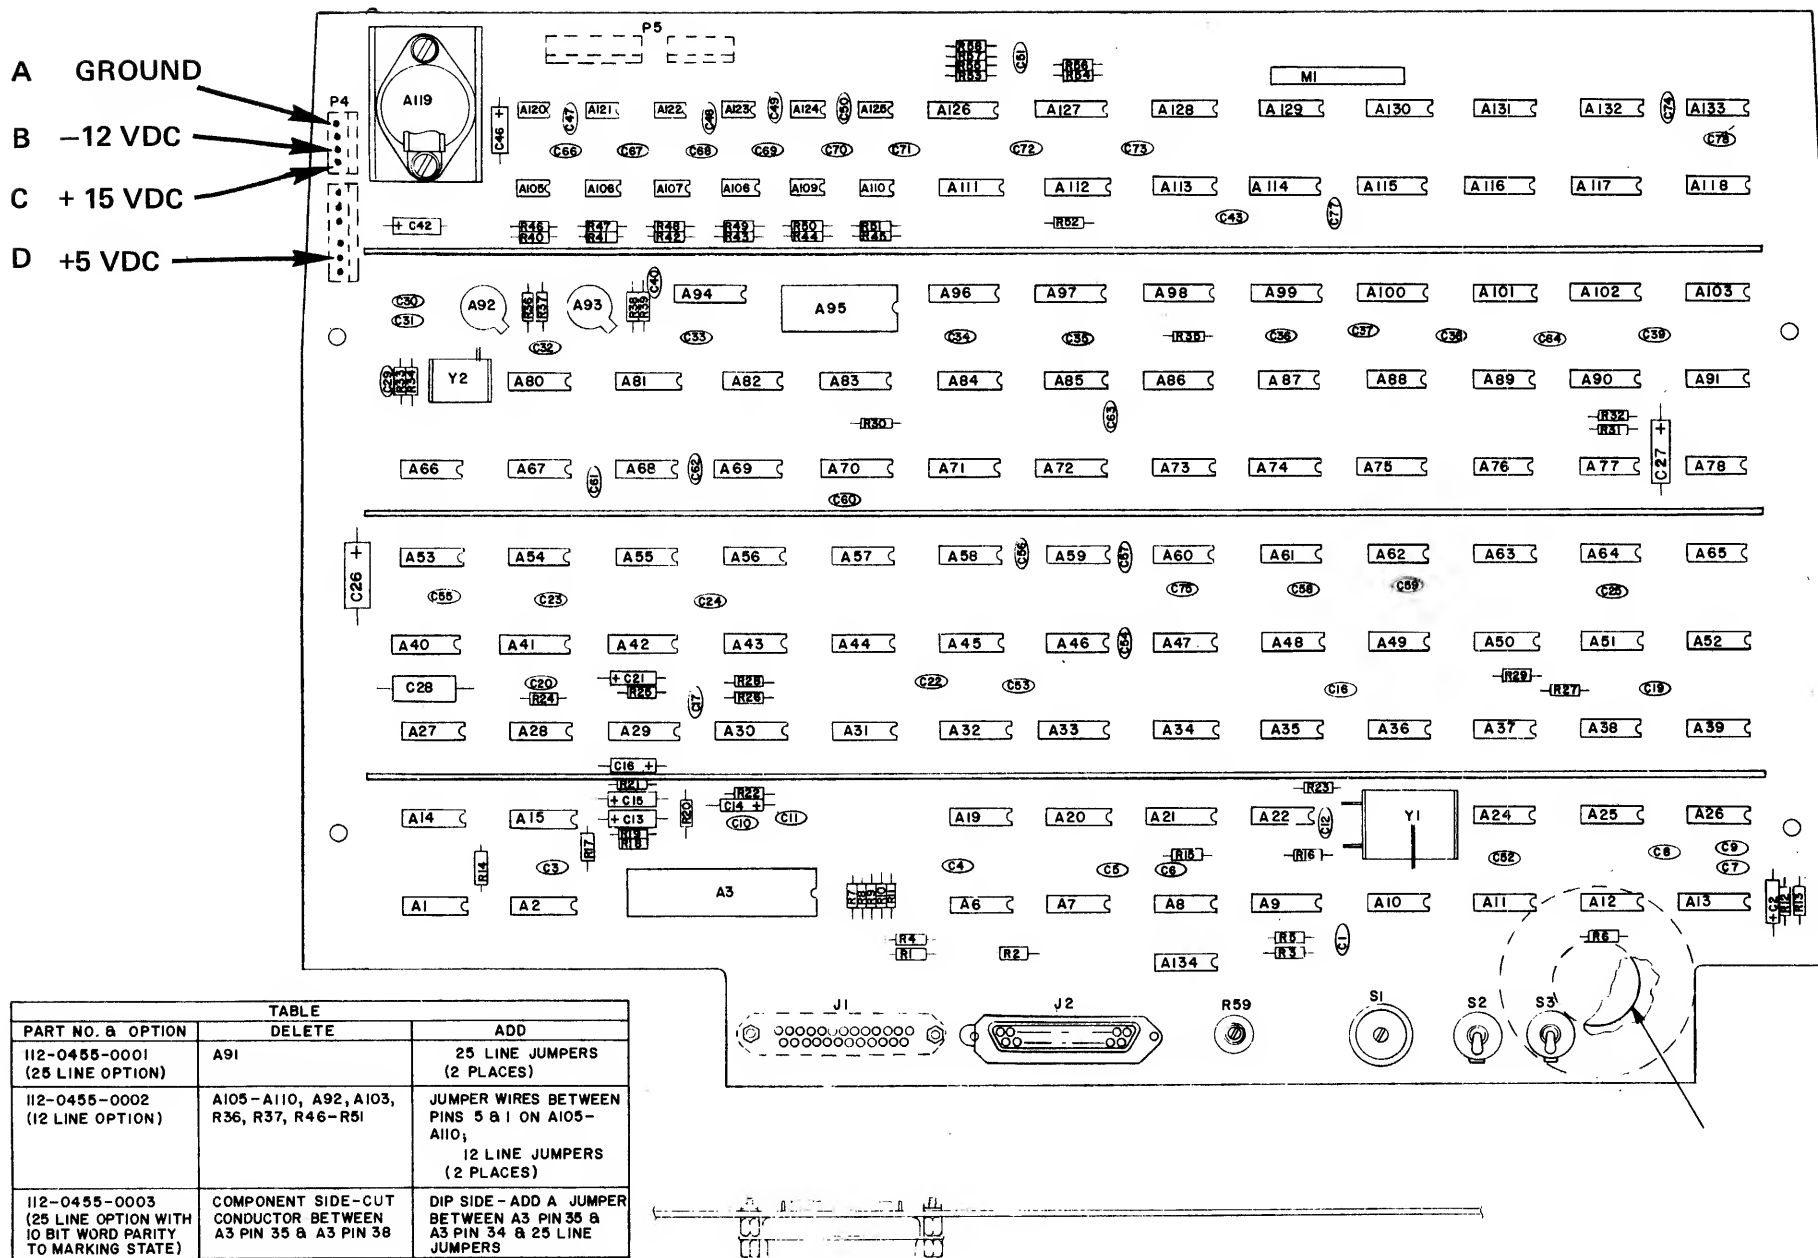
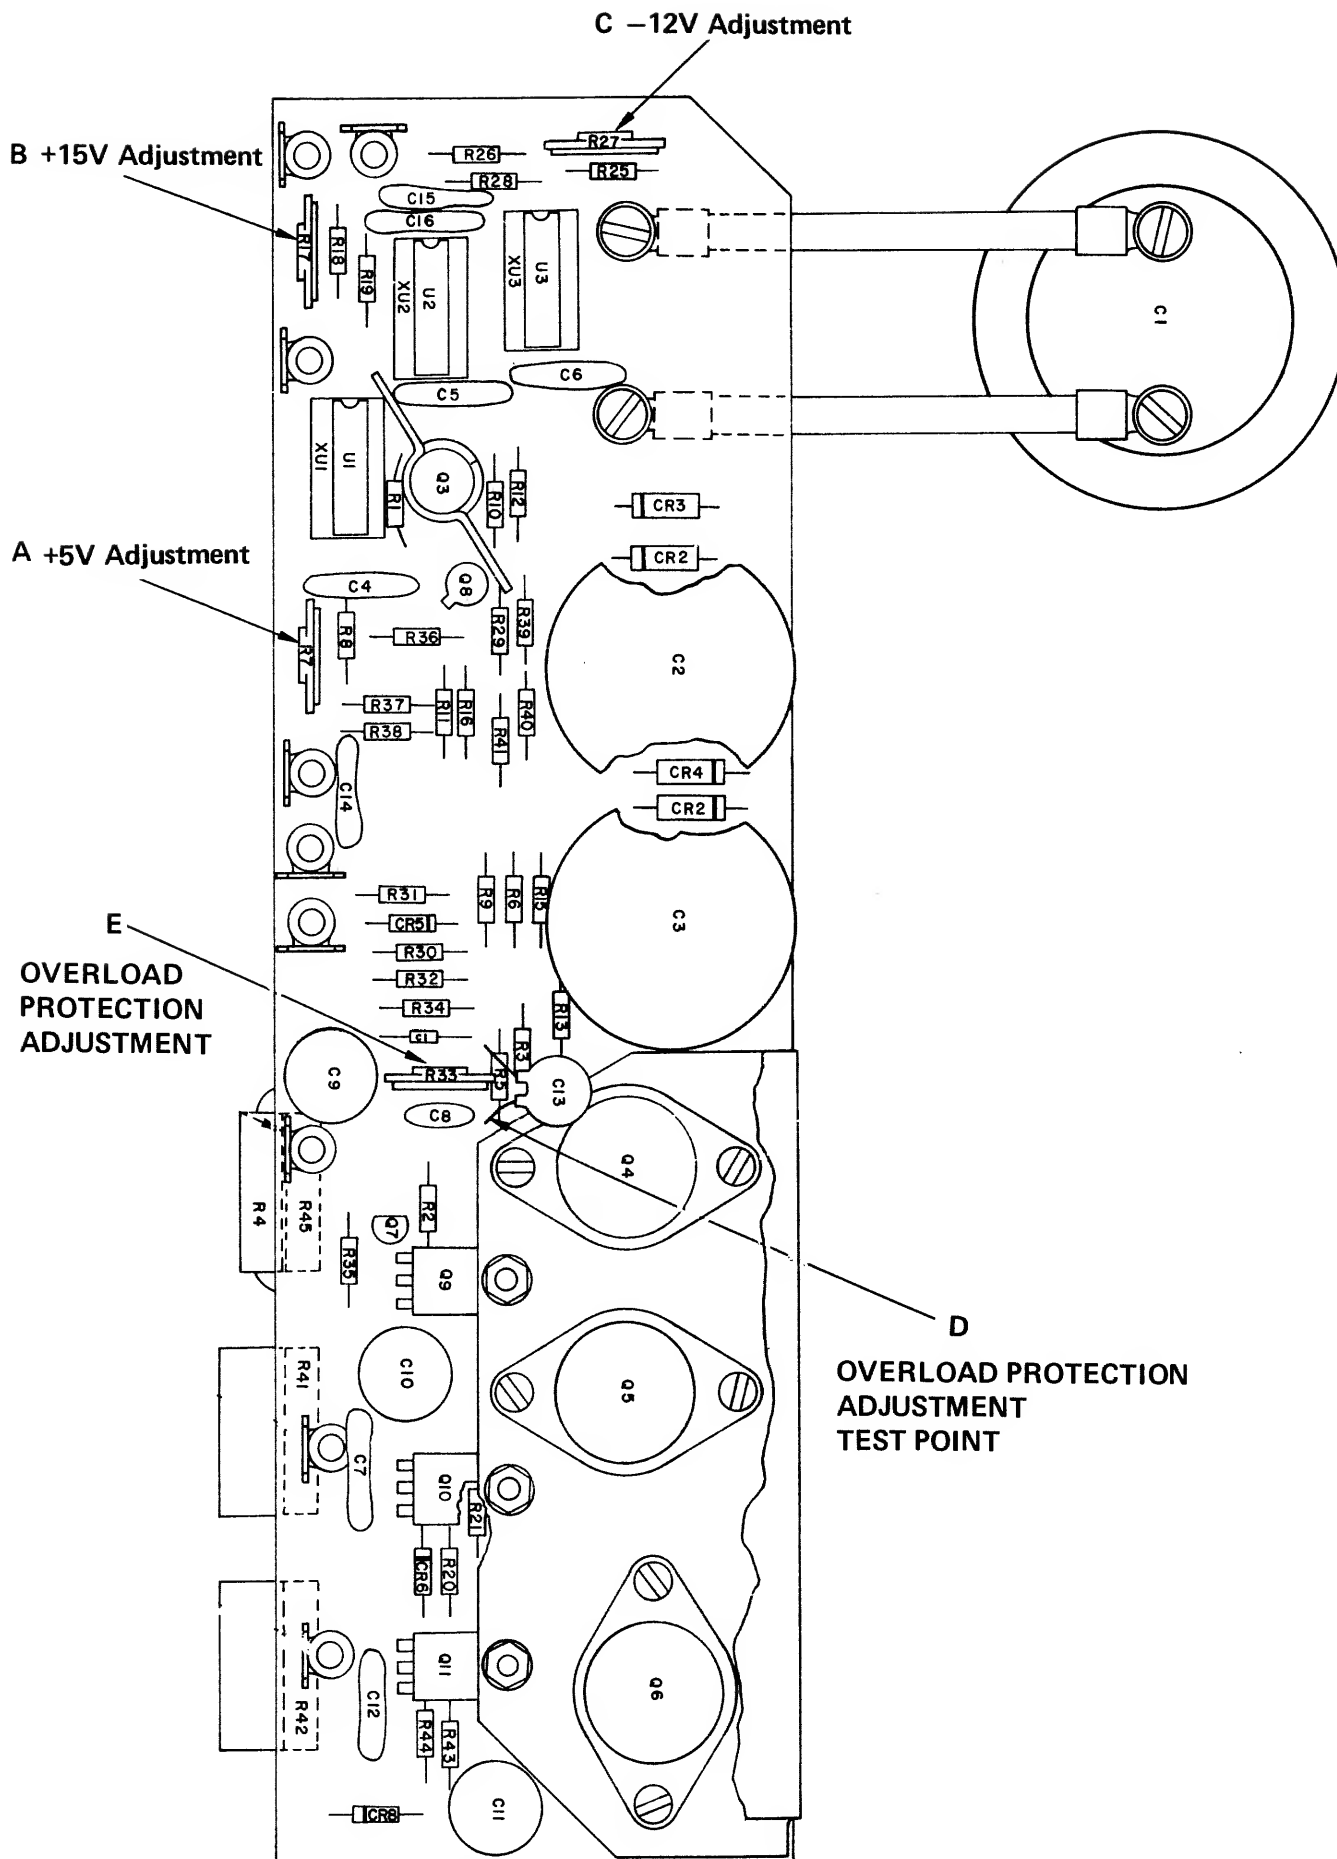
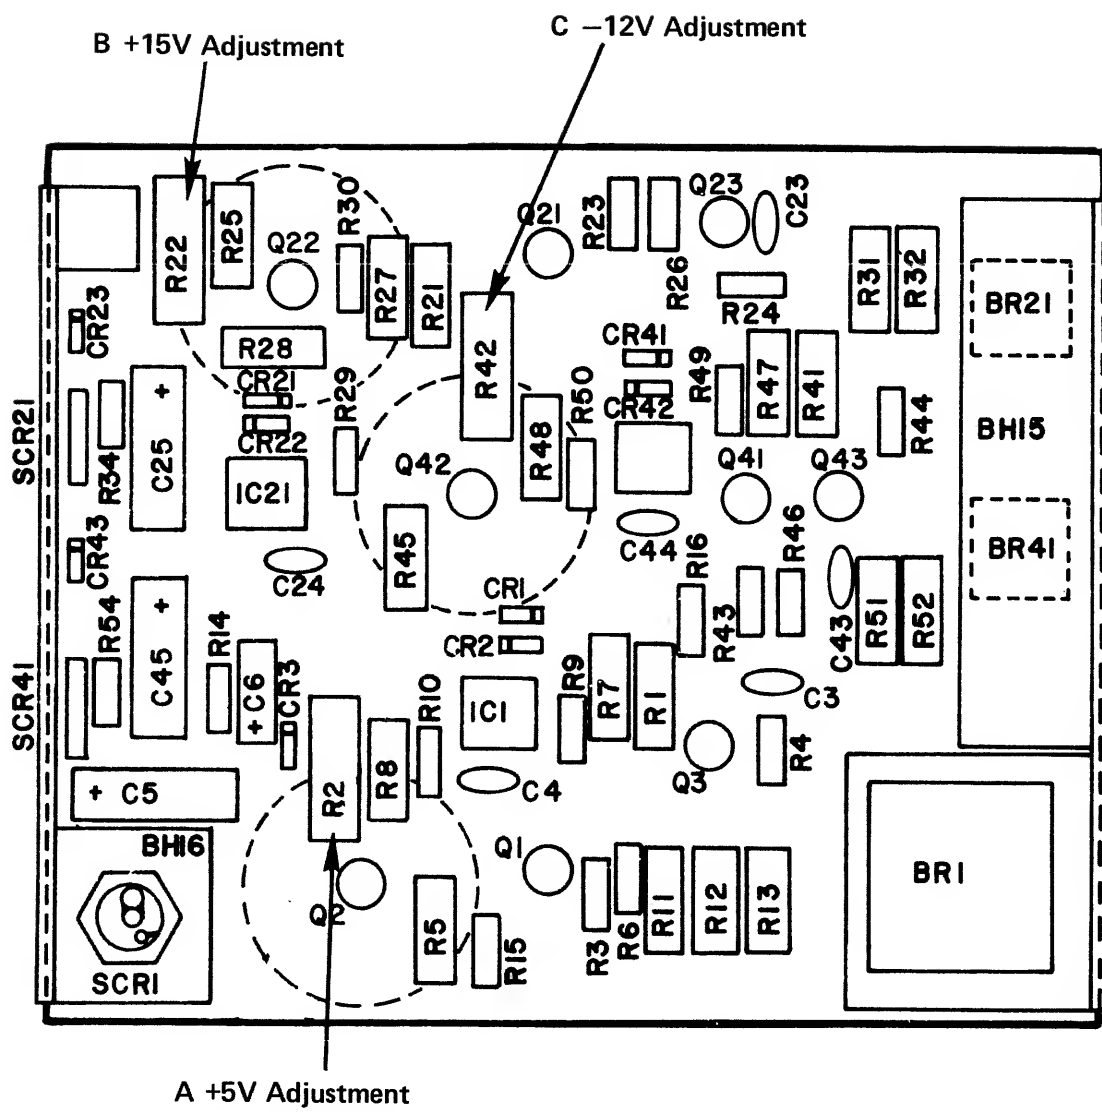

Figure 5-2. Mini Bee Logic Card 112-0455
Figure 5-4. Elexon Power Supply Adjustments
Figure 5-6. Scintillonics Power Supply Adjustments
5-21. The MINI BEE is produced using power supplies manufactured by various companies. All are the same in form, fit and function. Adjustment of all power supply units are monitored by connecting a volt meter at the test points (A through D) indicated on Figure 5-2. Adjustments should be made to assure the output levels are as follows:
The +5 VDC output should be checked and adjusted first. To adjust the +5 VDC voltage level the meter should be connected between the GRND and +5 VDC test points on the Logic Card (see Figure 5-2). The voltage at this point should be +5 VDC \pm .2v. If it is not, rotating the adjustment lug on R7 (see Figure 5-4, point A) should bring the voltage within specified limits.
To adjust the +15 VDC voltage level connect the meter between the +15 VDC and GRND test points (see Figure 5-2). The voltage at this point should be +15 VDC \pm .2v. If it is not, rotating the adjustment lug on R17 (see Figure 5-4, point B) should bring the voltage within specified limits.
To adjust the -12 VDC voltage level connect the meter between the -12 VDC and GRND test points (Figure 5-2). The voltage at this point should be -12 VDC \pm .2v. If it is not, rotating the adjustment lug on R27 (see Figure 5-4, point C) should bring the voltage within specified limits.
The Powerbee PC board is shown in Figure 5-6 and the schematic included in Section VI.
The +5V output is adjustable from approximately +4.8V to +5.2V or until OVP threshold is reached through turning the potentiometer, R2, clockwise (CW). A meter should be connected between the GRND and +5 VDC test points on the Logic Card (see Figure 5-2). The voltage at this point should be +5 VDC \pm .2V. If not, rotate R2 (Figure 5-6, point A) to bring the voltage to within specified limits.
To adjust the +15V output, the meter should be connected between the GRND and +15 VDC test points (Figure 5-2). The +15 V output can range from +14.8V to +15.2V. If not, adjust R22 (Figure 5-6, point B) to bring the voltage to within specified limits.
To adjust the -12 VDC output, connect the meter between the GRND and -12 VDC test points (Figure 5-6). The voltage at this point should be -12 VDC \pm .2V. If not, adjust R42 to bring the voltage to within specified limits. The -12 VDC output can range from -11.8 to -12.2 VDC.
To adjust the +5 VDC voltage level, the meter should be connected between the GRND and +5 VDC test points (see Figure 5-2). If the voltage at this point is not + 5 VDC, adjust by rotating potentiometer R11 (Figure 5-8, point A) until voltage is within specified limits.
Adjustment of the +15 VDC voltage level is made by connecting the meter between the GRND and +15 VDC test points on the Logic Board (Figure 5-2). If the voltage does not read +15 VDC \pm .2V, rotation of the potentiometer R23 (Figure 5-8, point B) will bring the level to within specified limits.
The -12 VDC output level is checked by connecting the meter between the GRND and -12 VDC test points on the board (Figure 5-2). The output level at this point should be $-12 \text{ VDC} \pm .2\text{V}$. If not, adjust by rotating R33 (Figure 5-8, point C) to bring the level to within specified limits.